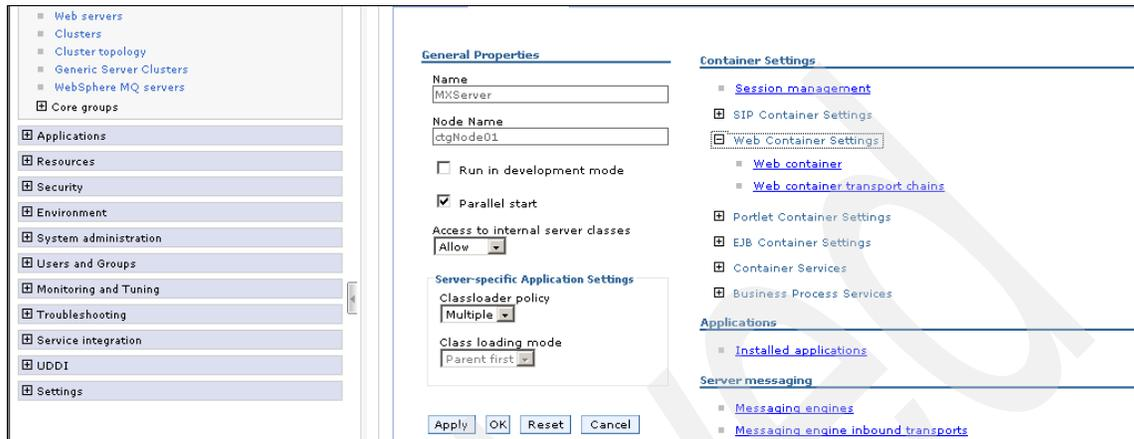

Figure A-11 Web container transport chains
12. Open Web Container Settings and click **Web container transport chains** (see Figure A-11). Note the default port number as it appears with WC_defaulthost (9080). Click **Save**.